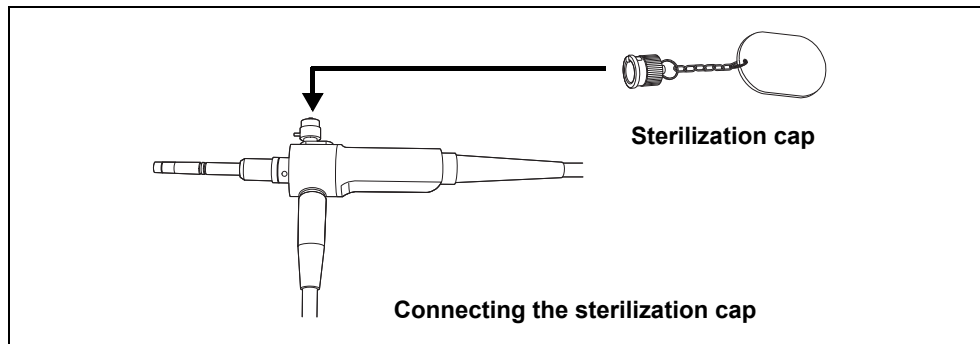

Figure 3.3
- When performing V-PRO[®] maX sterilization, the sterilization cap (MAJ-1538) must be attached to the venting connector in order to avoid rupture of the bending section. (See Figure 3.3)